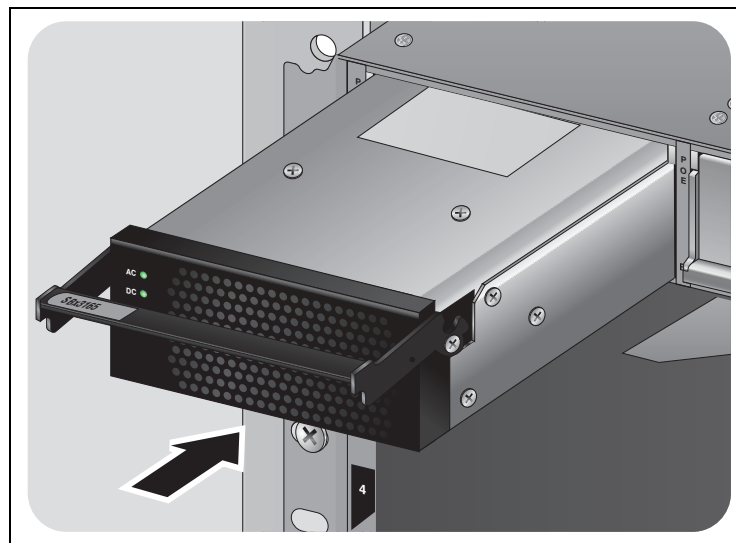

Figure 38. Inserting the AT-SBx3165 PoE Power Supply
6. Align and insert the AT-SBx3165 in slot A. See Figure 38.